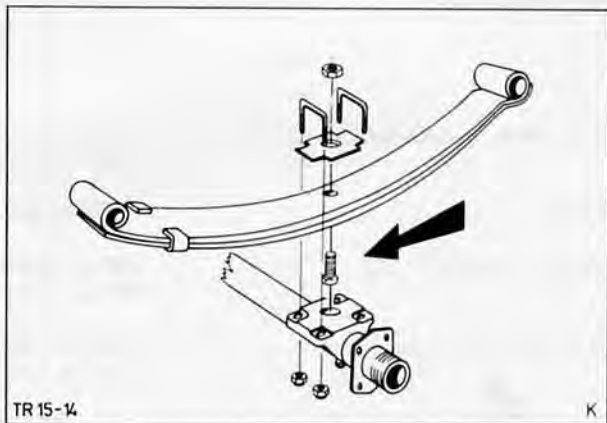

Fig. 147. Centre axle with centering bolt
6. Attach spring 'U' bolts, centering axle with centering bolt, and lower vehicle, Fig. 147.